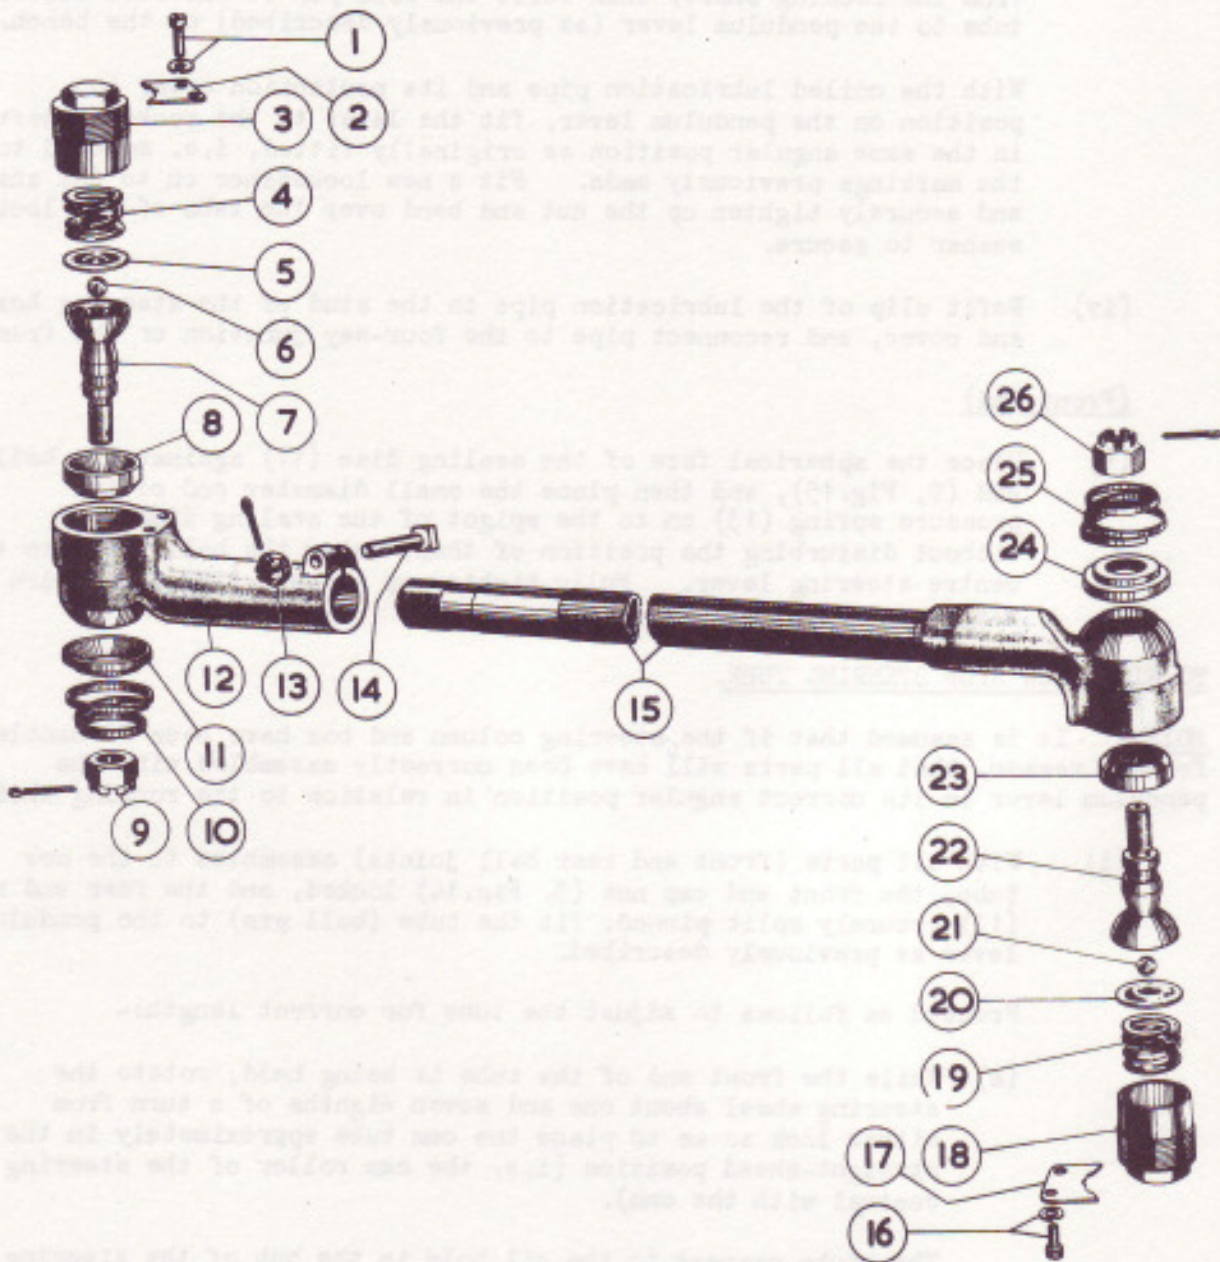
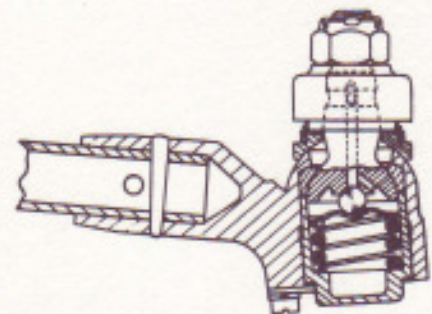

FIG. 17. "EXPLODED" VIEW OF A CROSS STEERING TUBE.
FIG.18. SECTION THROUGH A BALL JOINT (OUTER) OF A CROSS STEERING TUBE.
Notation for Fig. 17.
The four ball joints are identical and are lubricated from the centralised chassis lubrication system. No adjustment is provided for the poundage (friction load) on the ball joints, because a coil spring exerts a constant pressure on the joint. (See Fig.18). It is permissible, however, in the event of complaints of wheel wobble or of road reaction transmitted to the steering wheel to increase the loading of the two outer ball joints providing that all normal methods of overcoming these complaints as described in "Steering Geometry" have failed to overcome the trouble. To increase the loading, fit a packing washer or shim between the coil spring (19, Fig.17) and the cap nut (18). It must be assured, however, that the thickness of the packing washer is such that when the cap nut is full screwed up, the spring is not choc-a-bloc.
- (i) The method of removal of the outer and inner ball joints of a cross steering tube from the cross and centre steering levers is the same for either end of the tube and for both the tubes. It will be observed on reference to Fig.17 that although the various parts which form the two ball joints of a cross steering tube, bear different reference numbers, they are identical with one another.
Remove split pin and nut (26, Fig.17) from the ball pin (22) and carefully remove ball pin from the lever. (Refer to "NOTE" "Side Steering Tube". Collect pressure spring (25) and sealing disc (24).
- (i) Remove the two setscrews and spring washers (1, Fig.17) and the locking plate (2).
- (ii) Remove cap nut (3), spring (4), spring pad (5), ball (6) and ball pin (7). The ball pad (8) can be removed if necessary.
- (i) Reverse the instructions for removal (See Fig.18). The ball joint and cap must be packed with a soft type of grease such as Duckham's HBB grease during
With the ball end pins fitted to the two joints place the sealing disc (11 or 24, Fig.17) and the pressure spring (10 or 25) in position on the ball pin and refit the ball pins to the centre and cross steering levers. Fully tighten up the nuts and secure with new split pins.